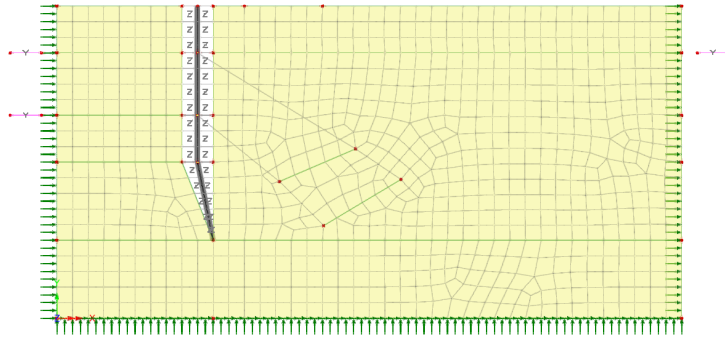

Figure 44: Installation of wall
- Select the wall and assign the **Activate Elements** attribute **wall** (figure 44).